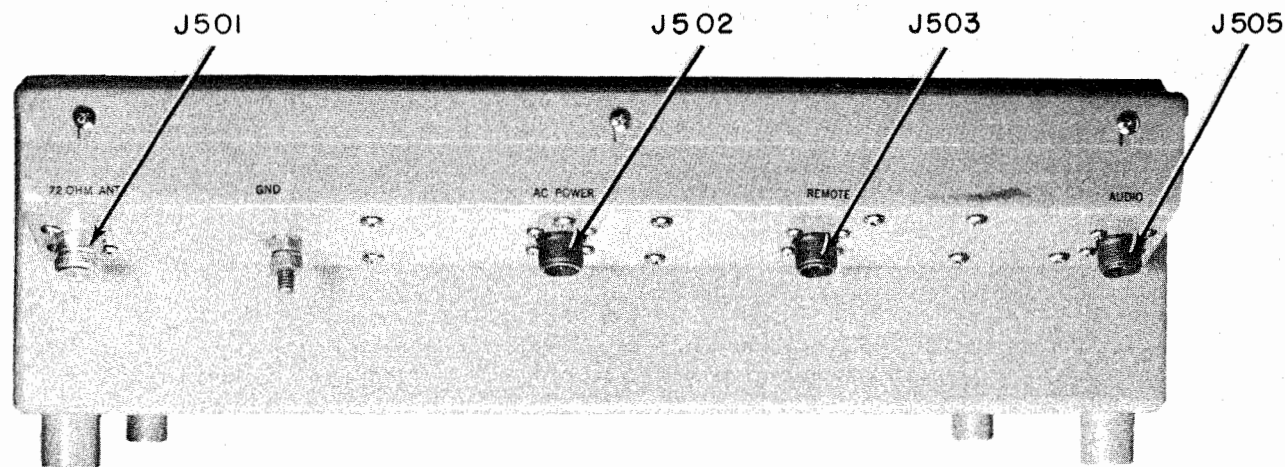

Figure 1-3. Photo—Rear View, Radio Receiver, Showing Rear Compartment with Connector Receptacles
b. REAR COMPARTMENT.—This unit as illustrated in figure 1-3 is permanently mounted to the rear of the receiver case. To obtain access to the compartment, loosen the three Phillips type screws at the rear, and lift off the compartment cover. This unit contains the RF